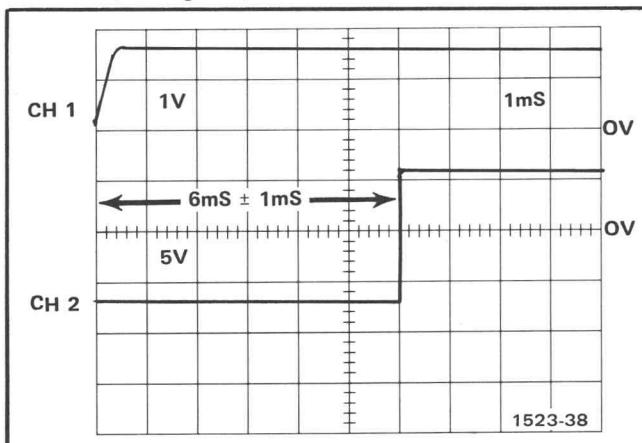

Fig. 5-9. QRS Timing.
- b. CHECK—Interval between first positive-going edge at TP382 and rising edge of pulse at TP388 is 6 ms,  $\pm 1$  ms (see Fig. 5-9).